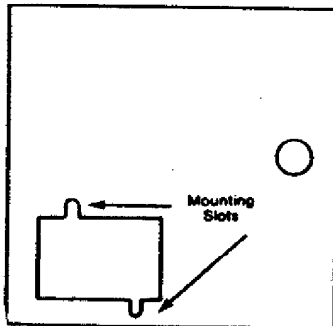

FIGURE 2
1. Use screwdriver to remove knock-out in front door of control center. (Figure 2.)